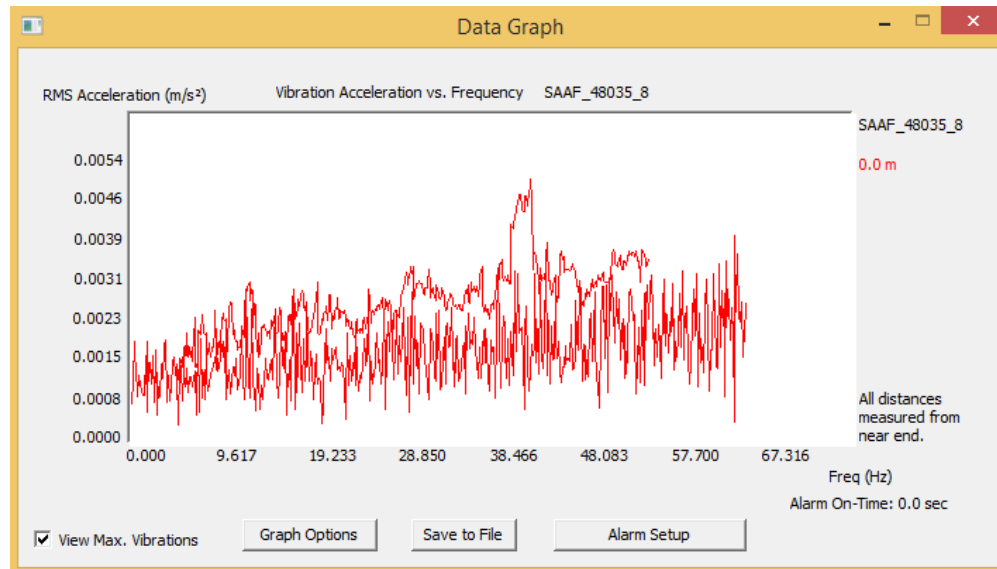

Figure 6.101: 'Acceleration vs. Frequency' with Max Vibrations ON.
7. To see what the maximum vibrations are over a period of time, check the 'View Max. Vibrations' check box in the lower left corner of the 'Acceleration vs. Frequency' window (see **Figure 6.101**).